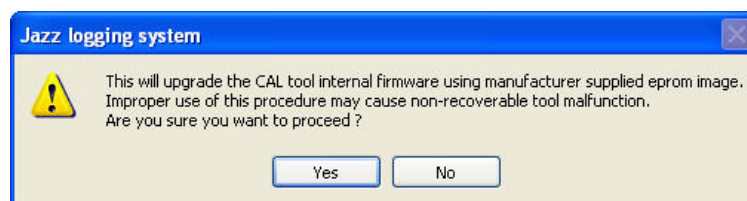

Figure 6-5 Warning Message during firmware upload
2. The following message will appear (Figure 6-5). Click **Yes** to validate your choice.